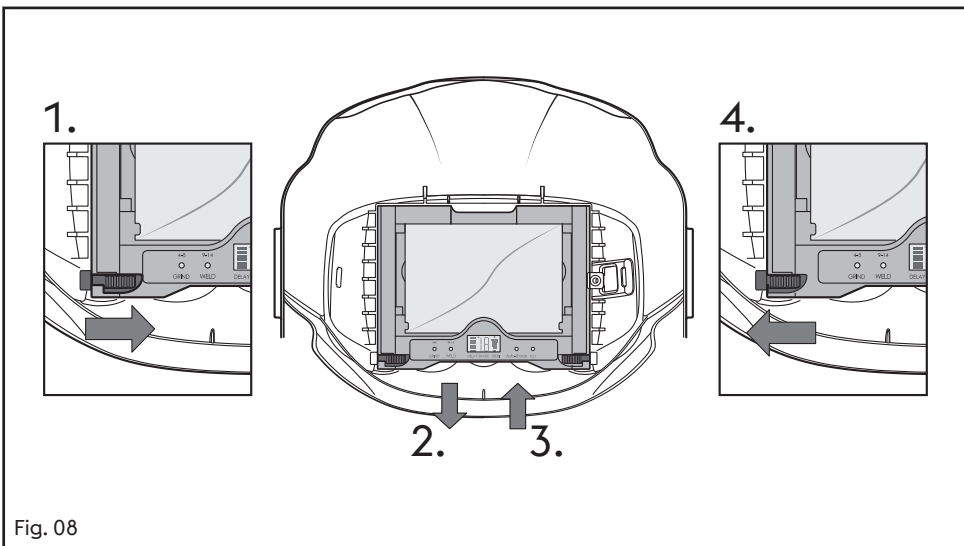

Fig. 08
1. To replace the inner lens the ADF needs to be removed from the flip-element. To do this, lift the flip into the up position. Rest the helmet with the chin facing up exposing the bottom of the ADF. (p. 7 - Fig. 08) Slide the two locking tabs into the middle. The ADF can now be slid out with a gentle pull.
4. Refit the ADF by sliding it along the tabs back into the flip-element and slide the two tabs outward to secure the ADF in place. (p. 7 - Fig. 08)
1. To replace the ADF Battery the ADF needs to be removed from the flip-element. To do this, lift the flip into the up position. Rest the helmet with the chin facing up exposing the bottom of the ADF. (p. 7 - Fig. 08) Slide the two locking tabs into the middle. The ADF can now be slid out with a gentle pull.